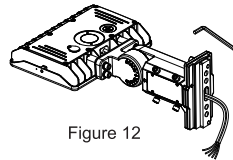

Figure 12
Step 3: Pass the input wire through the bracket and lock the bracket(Figure 12).